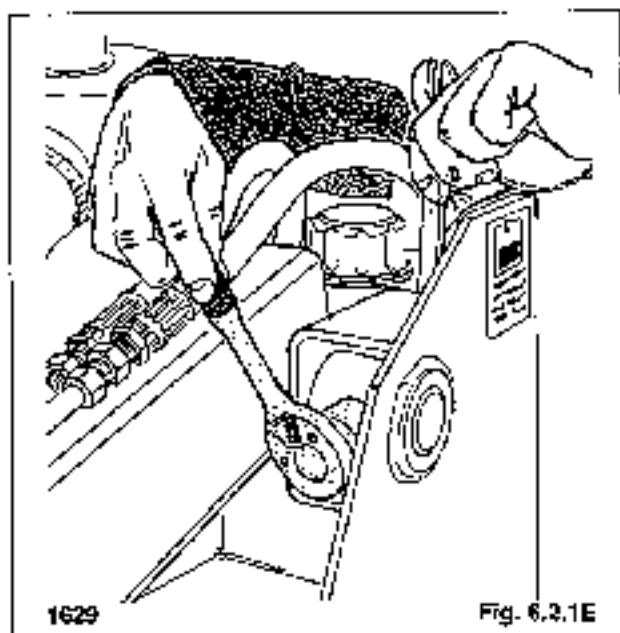

Fig. 6.2.1E
10. Remove the locknuts and lock bolts from the rear boom pivot pins (Fig. 6.2.1E).